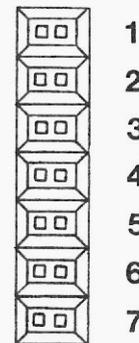

Figure 2. Jumpers
**STEP 10.** Find the block of jumpers on the upper right of the Accelerator IIe. Refer to Figure 2. There are 7 jumper positions. The top jumper goes with slot 1, the next with slot 2, etc. The bottom jumper goes with slot 7. Now for each slot where you have any type of memory board, *remove* the corresponding jumper (small plastic gadget). If you have an Apple IIe, ignore the auxiliary slot. For an Apple II or II Plus, the Accelerator IIe will not recognize a memory board in slot 0. Thus there is no jumper for slot 0. We recommend that you put the Accelerator IIe in slot 0 of an Apple II or II Plus.